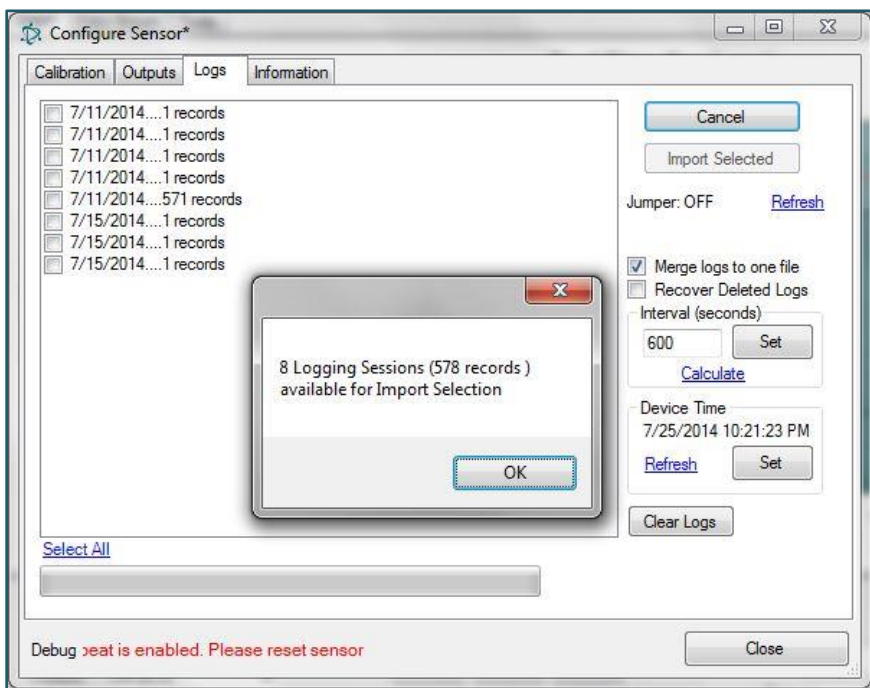

Figure 22: Downloaded data logs
9. When the download is complete, a popup message is shown with a summary of the downloaded records and a list of logs (logging sessions) is displayed as shown in **Figure 22**. The number of log files depends on whether or not the **MERGE LOGS TO ONE FILE** check box was selected.